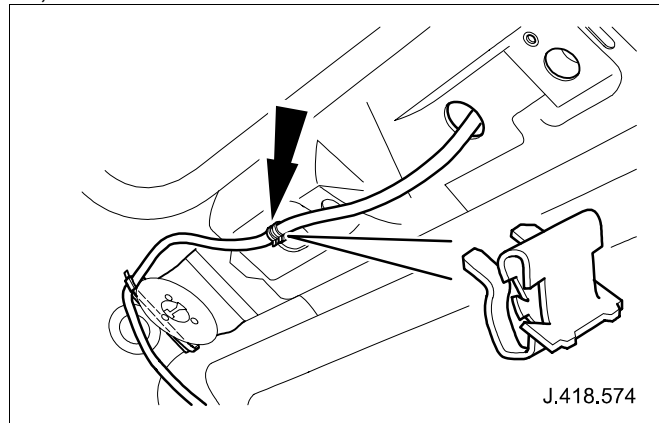

Fig. 14
- 41 Install metal clip to left-hand side of roof strengthening panel aperture. (See Fig. 14)